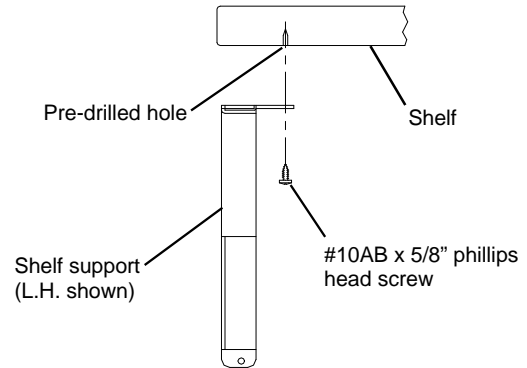

Figure 3
3. Align the pre-drilled holes in the bottom surface of the shelf with the holes in the left hand and right hand shelf supports. See **Figure 3**.
4. Fasten the shelf to the left /right hand shelf supports using the four #10AB x 5/8" long phillips head screws provided. See **Figure 3**.